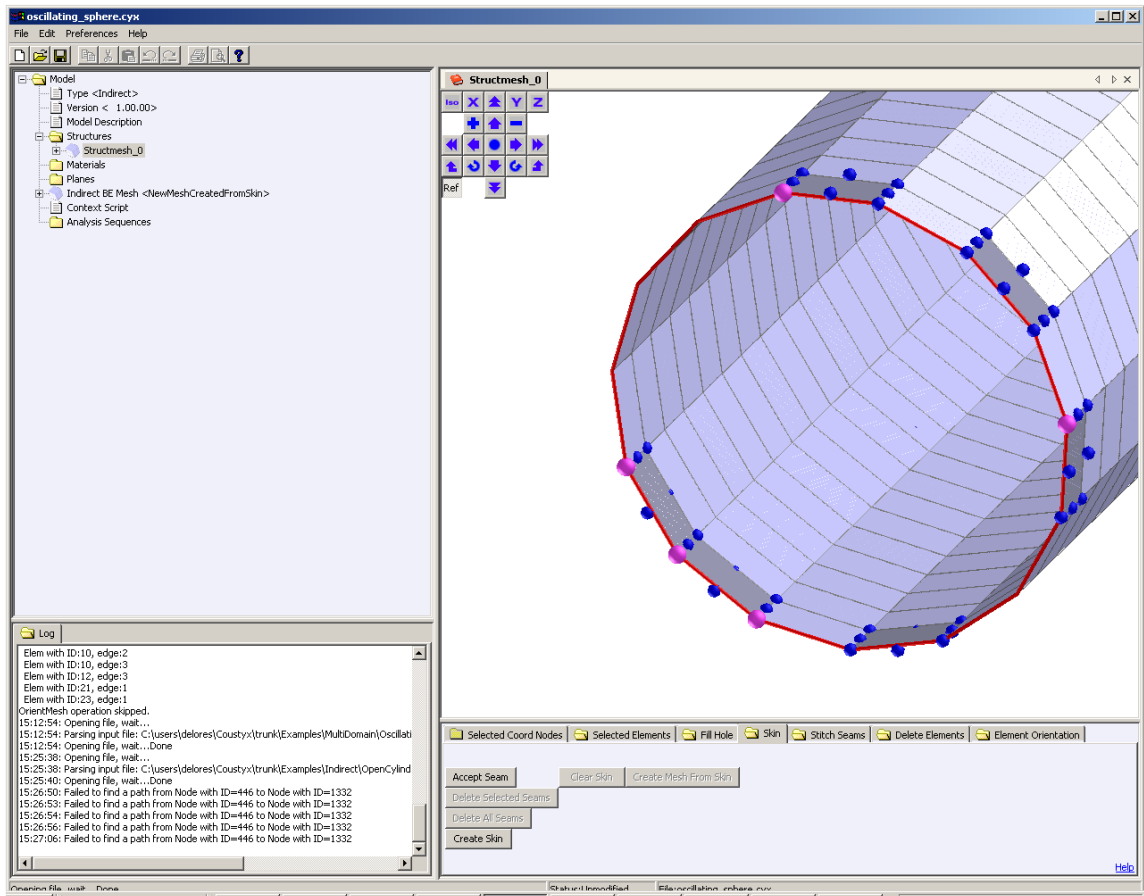

Figure 5.27 Create Seams.
Coustyx has the ability to skin the 3-D FE structure mesh to create a 2-D surface mesh used for BEA. The *Manipulation Task Function Skin* is located in a *tabbed* window at the bottom of the *Mesh Viewer* window (refer to Figure 5.27).
- If necessary, form the first seam as described in Section 5.6.1. If the seam is acceptable, click on **Skin** → **Accept Seam**. (Figure 5.27)